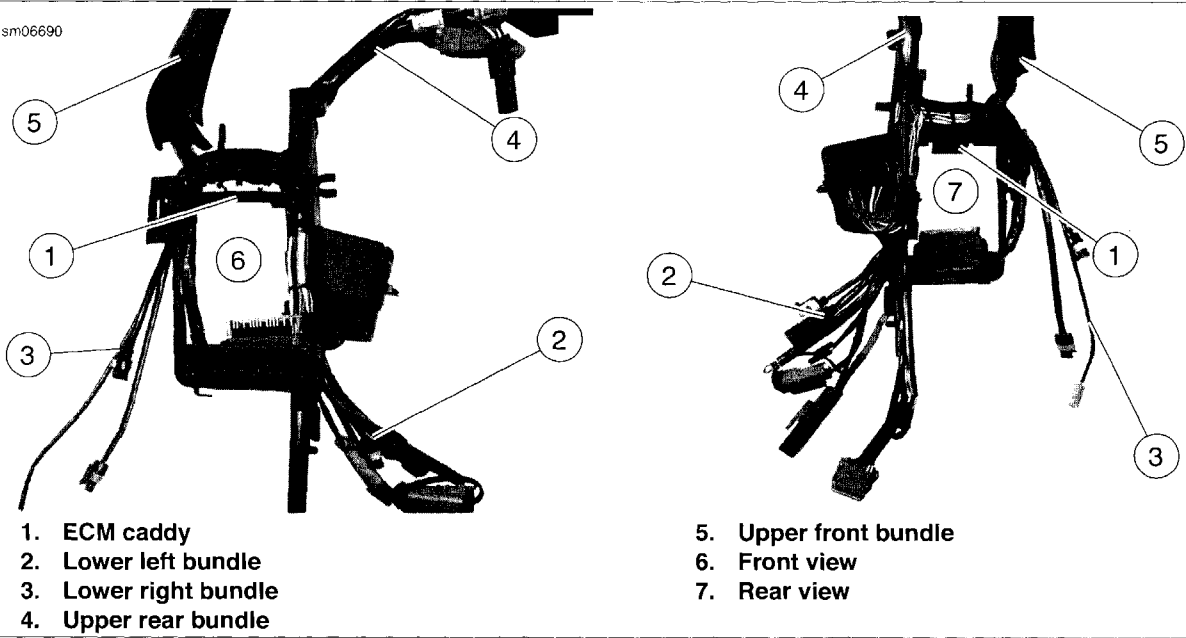
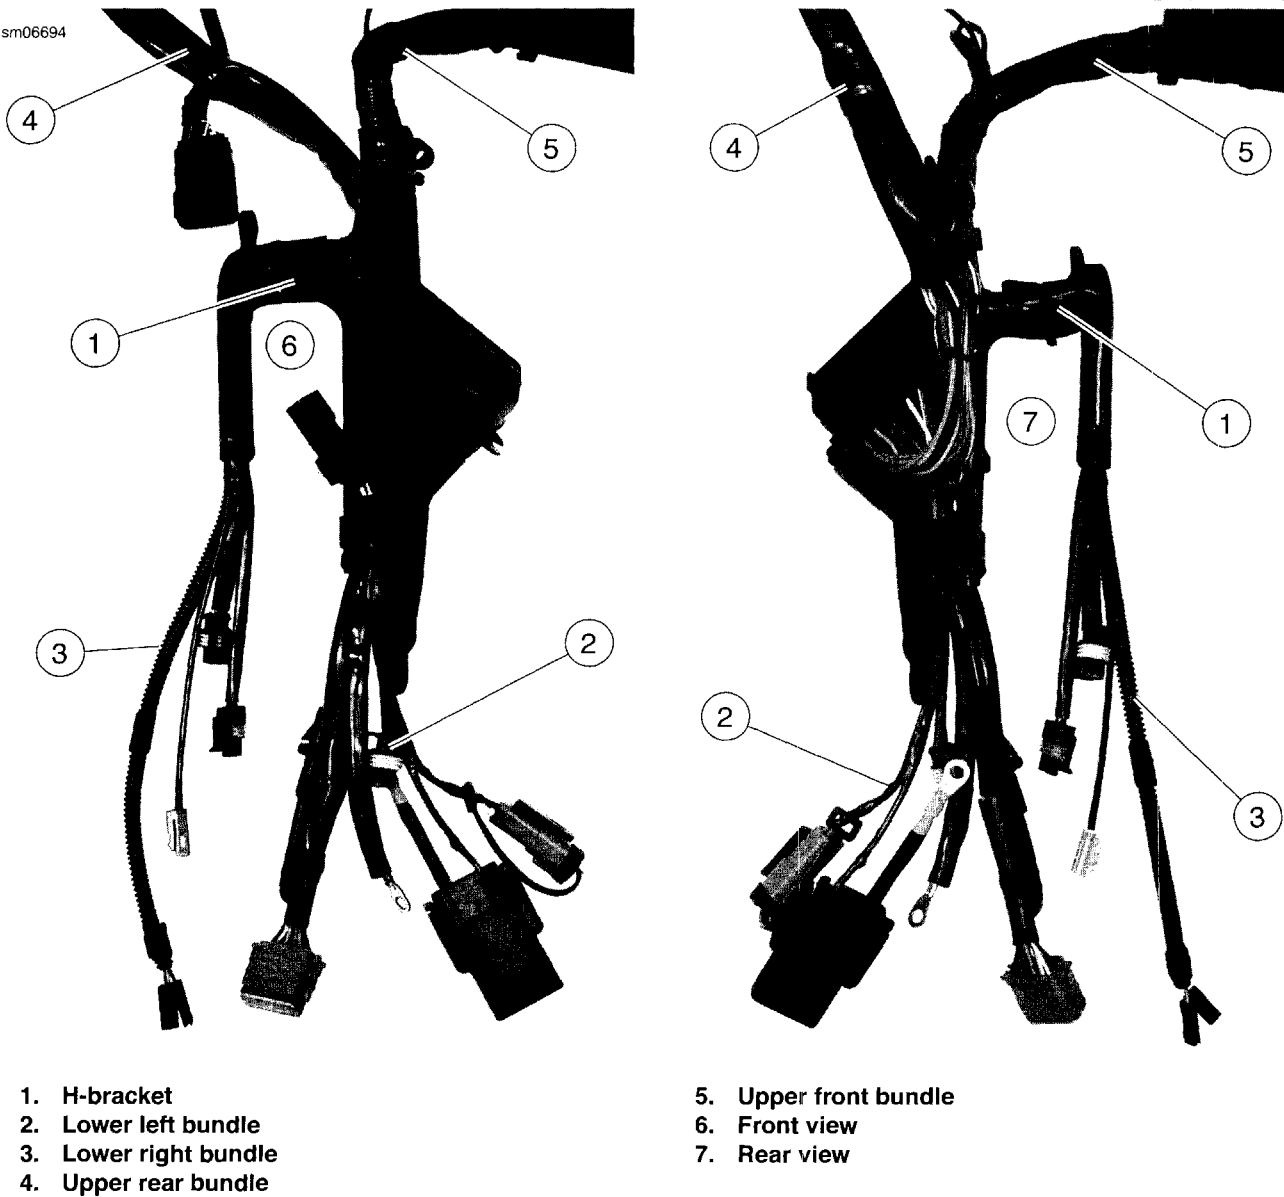

Figure 6-97. Main Wiring Harness: XL Models
Figure 6-98. Main Wiring Harness: XR Models
See Figure 6-97 or Figure 6-98. The main wiring harness can be divided up into four "bundles", originating at the ECM caddy (XL models) or H-bracket (XR models) (1). These bundles are:
**Lower left bundle (2)** including:
**Lower right bundle (3)** including:
- See Figure 6-97 or Figure 6-98. Loosely position **new** main wiring harness on vehicle. From left side of vehicle, slide ECM caddy (XL models) or H-bracket (XR models) (1) into position on rear frame downtube, guiding each wire bundle toward its respective area on the vehicle. Make sure lower right bundle (3) and upper front bundle (XL models only) (5) with wire harness caddies feed out toward right side of vehicle.
- Feed upper rear bundle (4) up over top of oil tank. Make sure engine sub-harness also feeds up into that area.